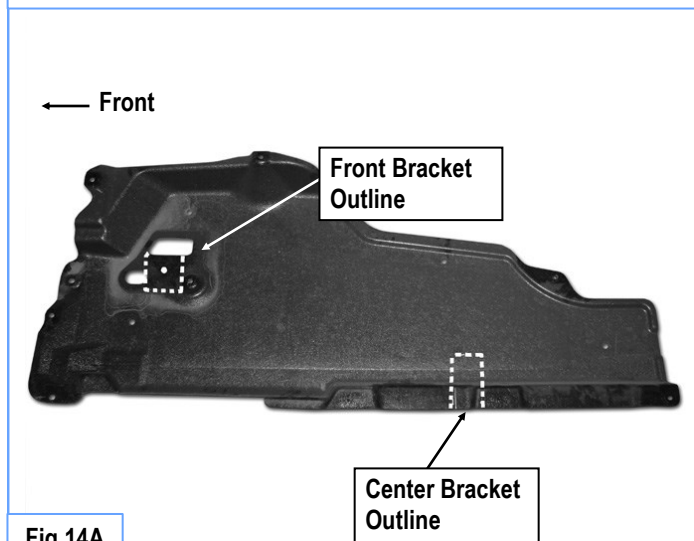

Fig 14A
Attach the driver side Front Mounting Bracket to the back of the Support Bracket with (1) M8X1.25-30mm Hex Bolt, (2) M8 Large Flat Washers, (1) M8 Lock Washer and (1) M8 Hex Nut, (**Fig 13**). Do not fully tighten hardware at this time. Hold the inner end of the Mounting Bracket up against the plastic cover and over the Bolt Plate. Trace the outline of the Bracket onto the cover, (**Fig 14A**).